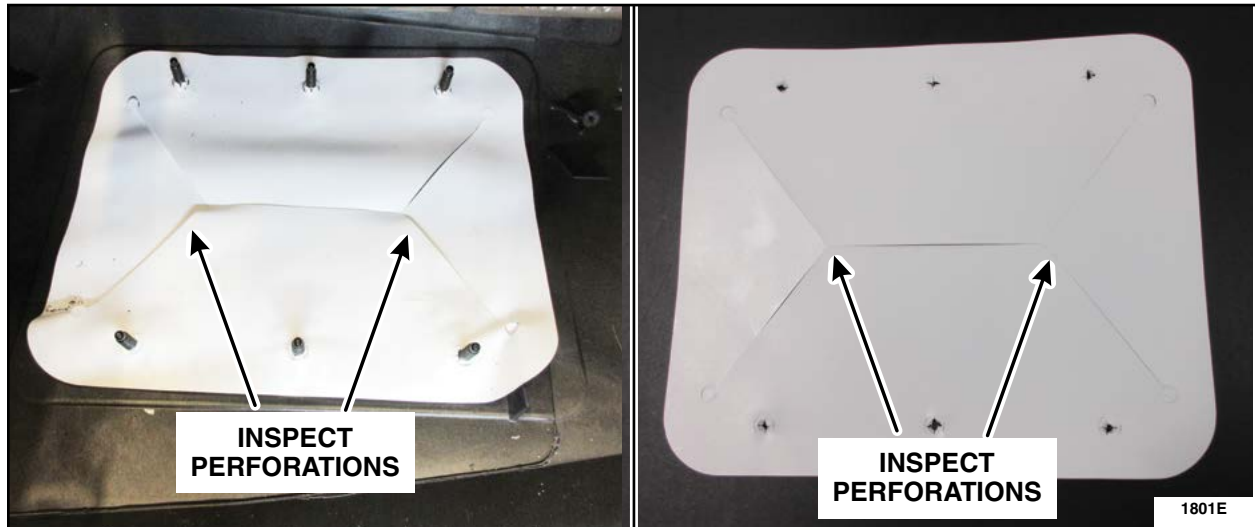

FIGURE 7
6. Inspect the white airbag cushion sheets installed on the instrument panel. See Figure 7.